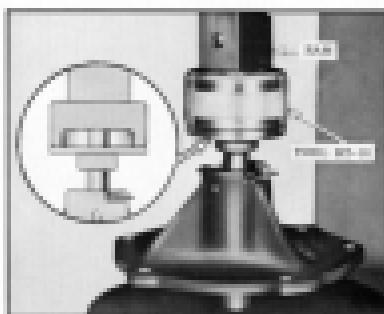

Fig. 271. Installing Fan Disk
1. Assemble bearing, slinger and hub assembly to housing, using tool BT-16 (See Fig. 271).